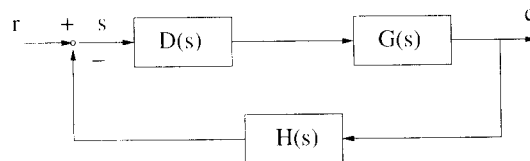

Figure 3
3. Figure 3 illustrates the block diagram of a ship stabilizer system, incorporating velocity feedback and phase lag compensation. Here
Note that the error signal is not s (see Figure 3) because the system does not have unity feedback.